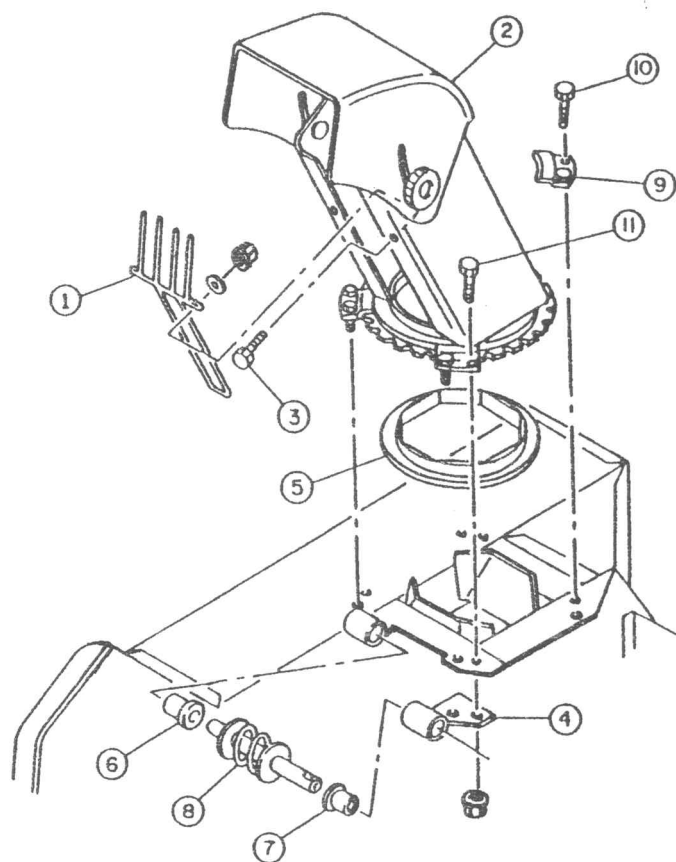

FIGURE 3
- b) Install hand guard (fig.3, item 1) on chute (item 2) with the top portion inside the chute and the bottom section outside the chute base ring. Place two 1/4 X 3/4" bolts (item 3) with the head on the outside of chute, through the chute then through the hand guard and secure with flatwashers and nuts. Tighten securely.
- c) Place plastic anti-friction insert (fig.3, item 5) over chute base. Only one position provides a perfect fit.
- d) Insert shortest plastic bushing (fig. 3, item 6) in snowblower tube weldment.
- e) Insert longest plastic bushing (fig.3, item 7) in bushing support (item 4), grease both ends of rotation worm and place rotation worm (item 8) in bushing.
- f) Install rotation worm assembly through tube weldment with the bushing support (fig.3, item 4) on the underside of chute base lip.
- g) Install chute (fig.3, item 2) over plastic insert (item 5) (applying grease in between) and secure with four retaining plates (item 9) using six $\frac{1}{4}$ X $\frac{1}{2}$ " bolts (item 10) and two $\frac{1}{4}$ X $\frac{3}{4}$ " bolts (item 11) to also secure bushing support (item 4). Lock all bolts with nuts. Tighten securely.